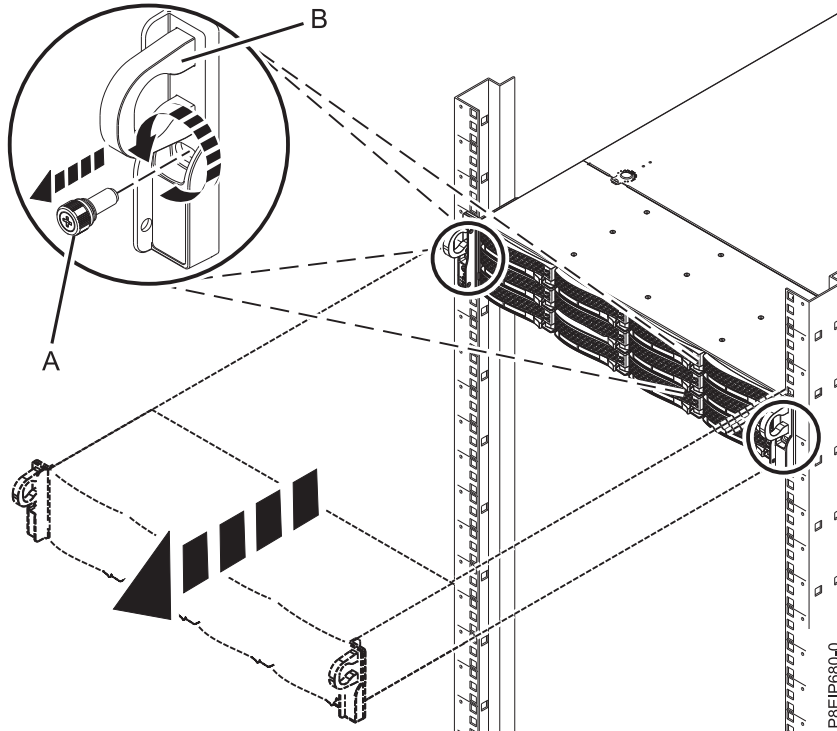

Figure 98. Removing the front screws and removing the system from the rack
4. Remove the front screws (A) that secure the system to the rack from both sides of the system as shown in Figure 98 on page 93.